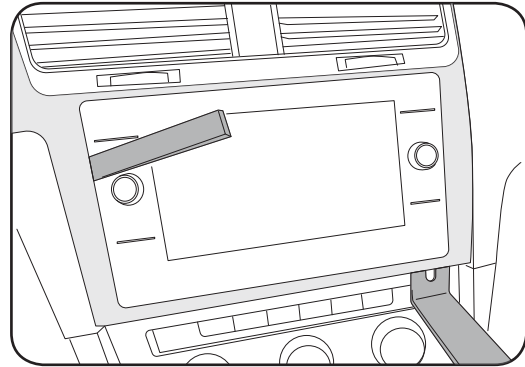

Fig. 1.1
- Using a panel tool, carefully pry outward on trim panel and vents around radio. (Fig. 1.1)